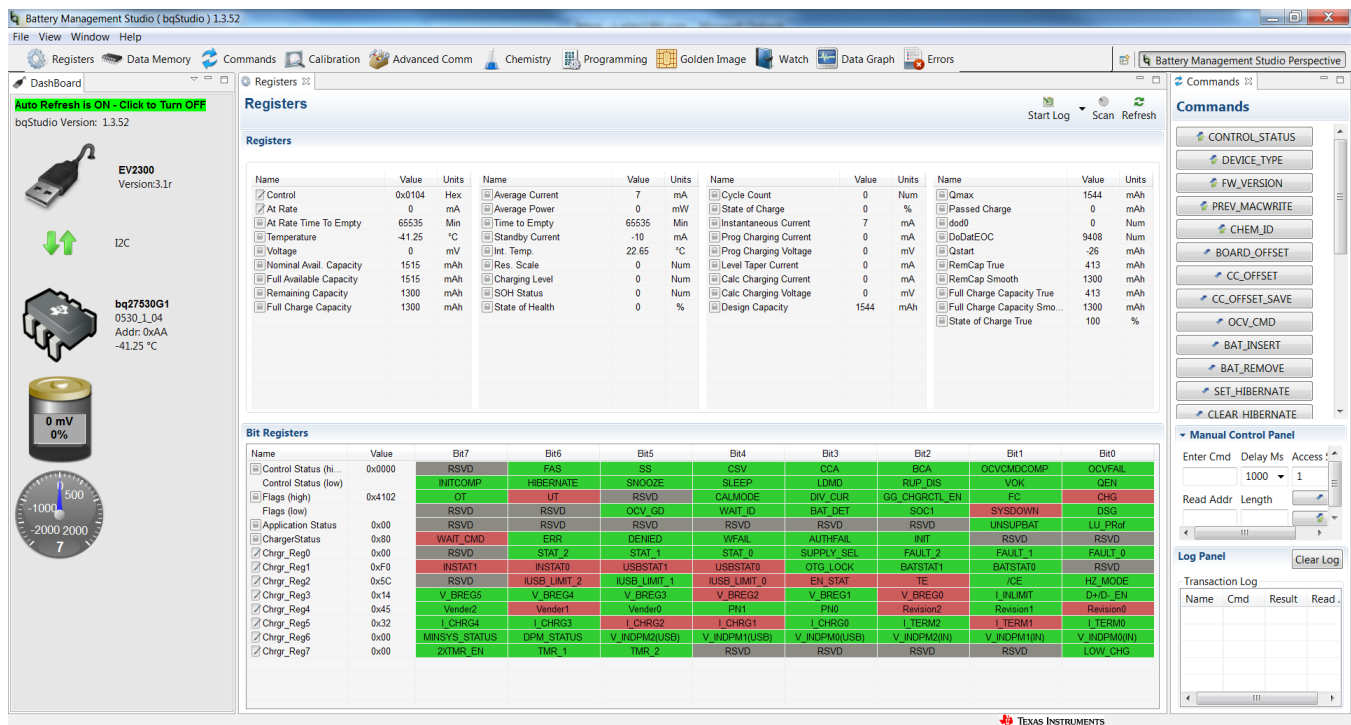
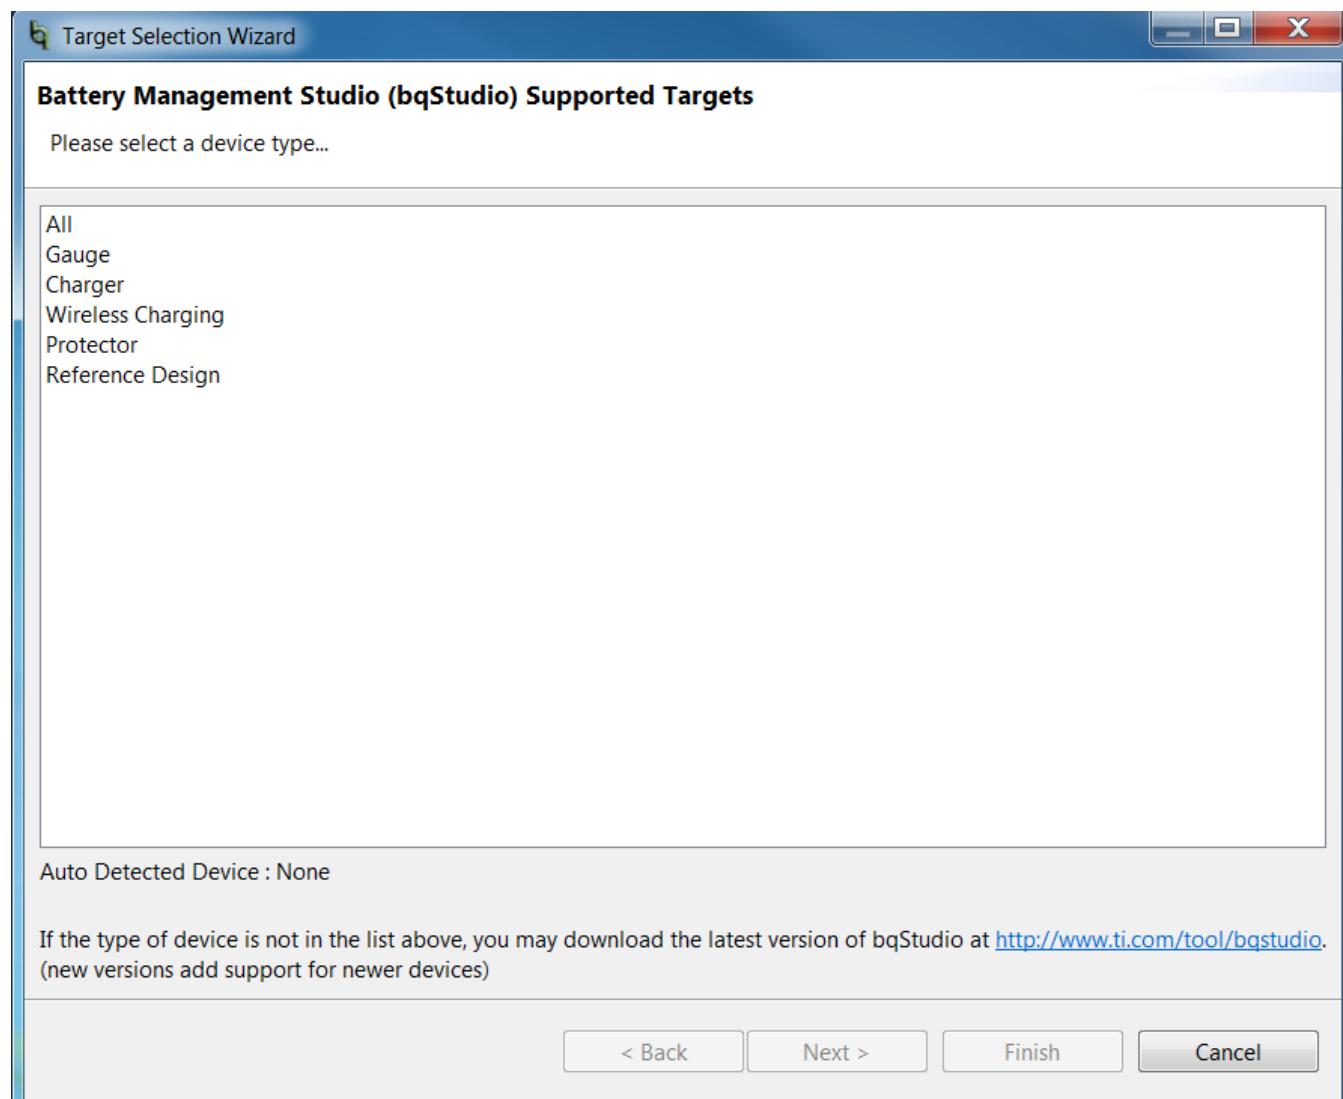

Figure 9. Registers Screen
Figure 10. bqStudio Default Page
10. Turn on the computer. Open the bq27530 evaluation software. The main window of the software is shown in Figure 9 (DataRAM Screen)
Run bqStudio from the Start | All Programs | Texas Instruments | Battery Management Studio. The main screen (Figure 9) appears. If instead of Figure 9 appearing, Figure 10 appears, it may mean that the EVM is not connected to the computer correctly. Make sure that the USB interface (EV2300 or EV2400 or GDK) and the bq27530 are connected and restart bqStudio. If this still does not resolve the issue, check if the I2C pullup resistors are connected. Data begins to appear once the <Refresh> (single-time scan) button is clicked, or when the Scan button is clicked. To disable the scan feature, simply click the **Scan** button again.
This screen (Figure 9) shows the RAM data in the bq27530 device. Additional Flags and Status data can be viewed at the bottom of the Registers screen.